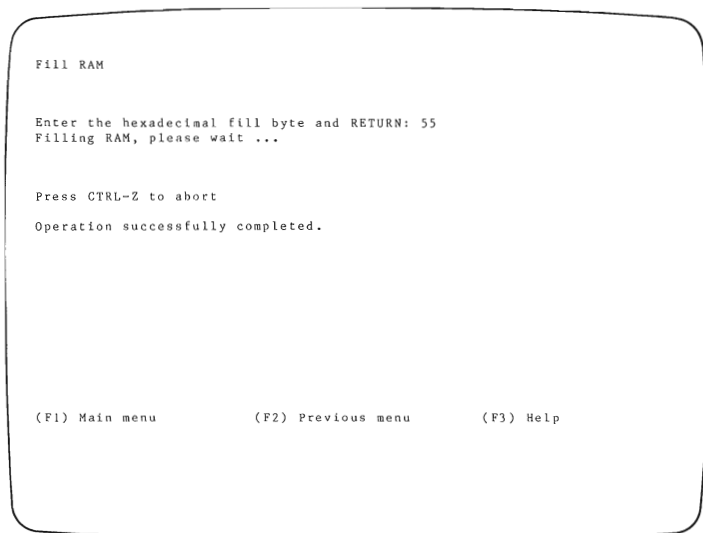

Figure 3-25. Fill RAM Screen
The programmer RAM can be filled with a specific data byte from the *Fill RAM* screen (figure 3-25). Access is from the *Edit Functions* menu (8) on the *Main* menu. After the fill RAM with data byte operation is complete, all bytes in the programmer RAM contain the specified data byte. Enter the data byte used to fill the RAM in hexadecimal notation. (See appendix A for a table of ASCII characters and their hexadecimal codes.)